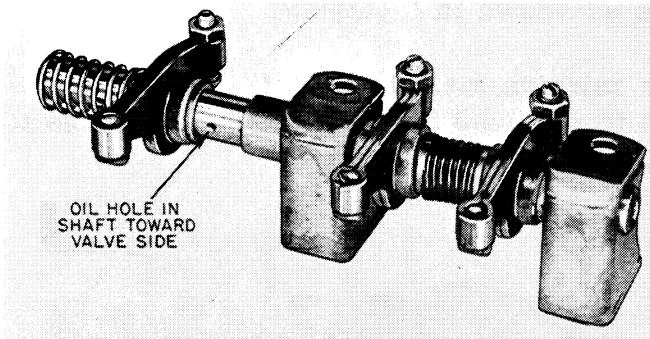

Figure 6 - Oil Hole In Shaft
6. Proper assembly of rocker arms with relation to the oil hole in the shaft is shown in Figure 6. Improper lubrication will result if the drilled hole is reversed.